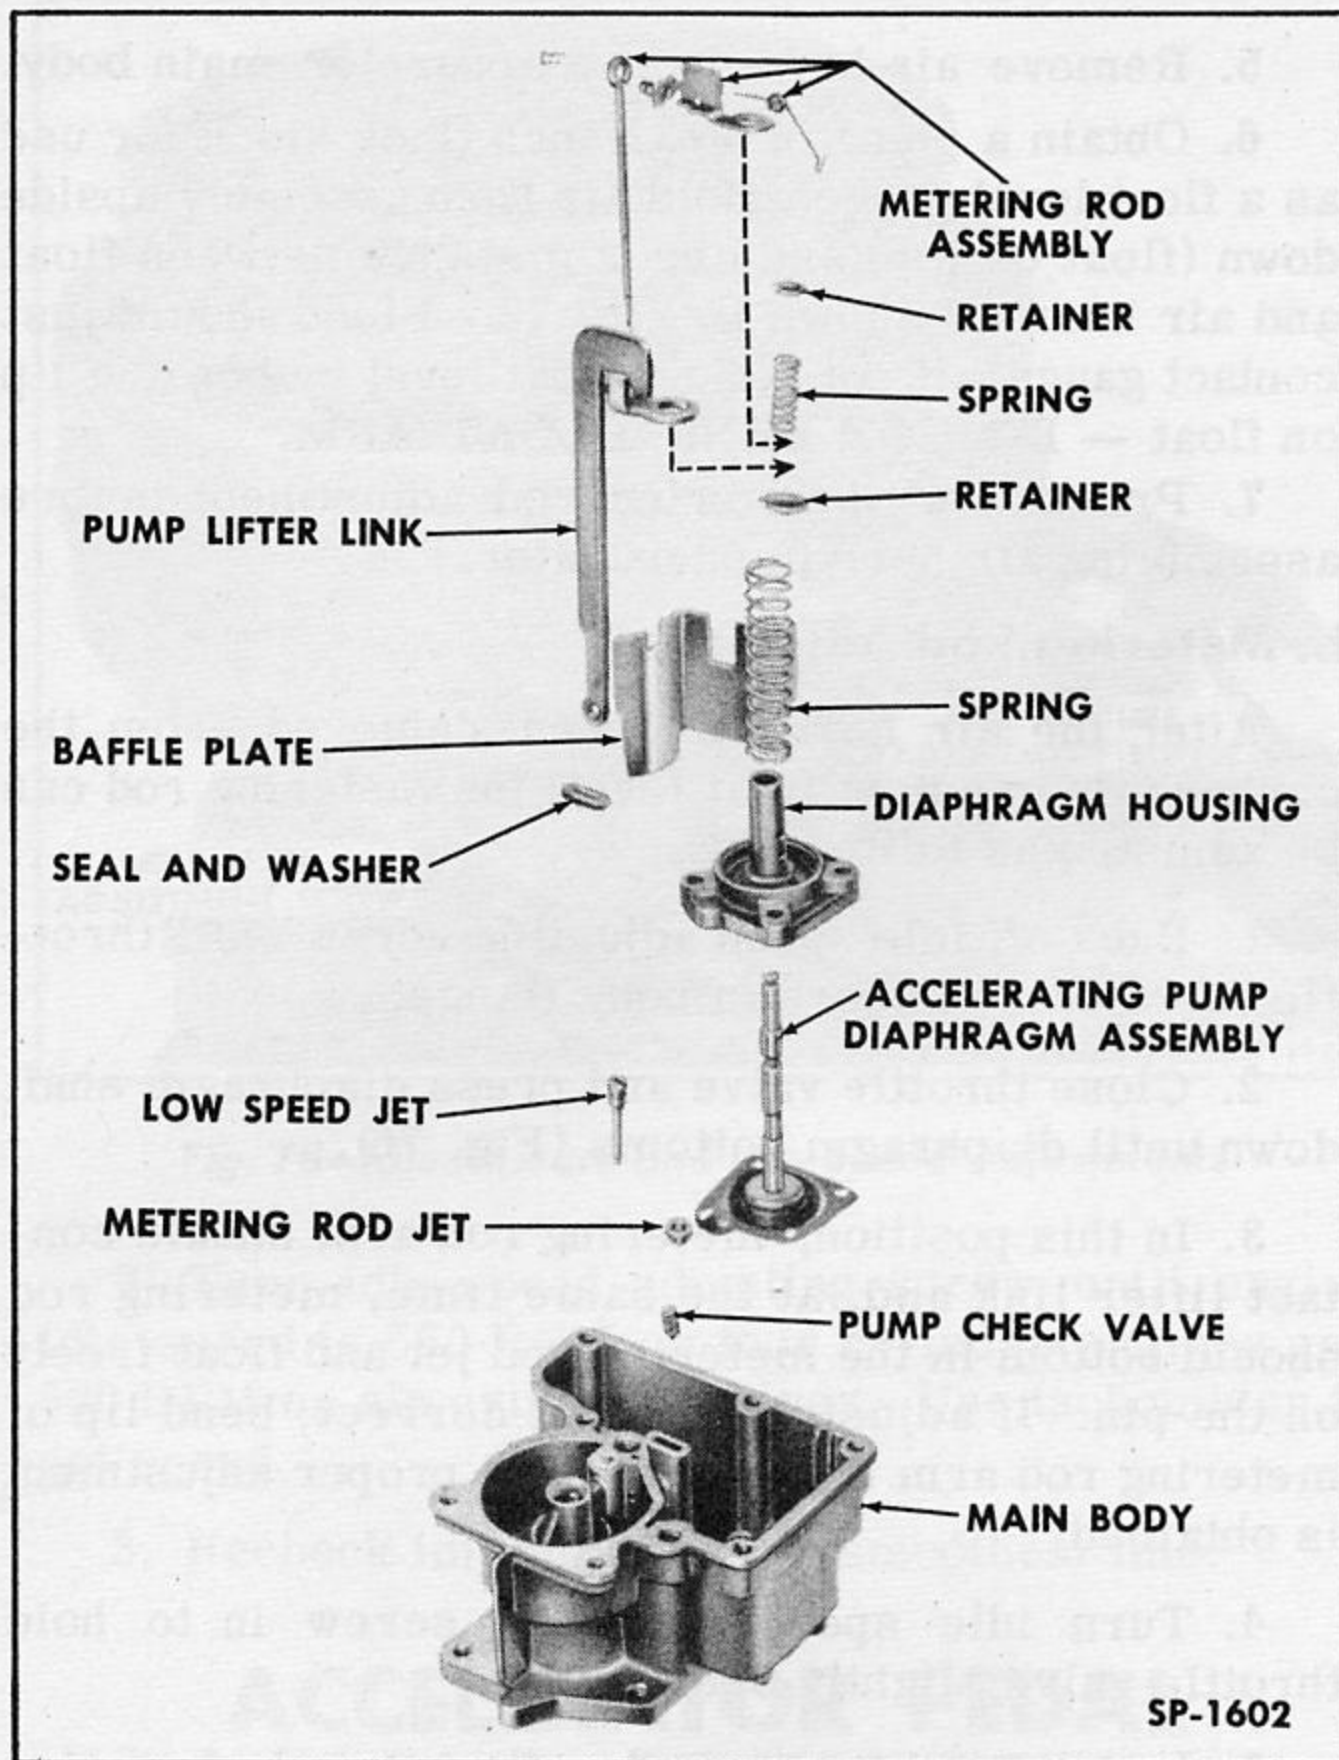

Fig. 73—Carburetor Main Body—Exploded View
3. Turn carburetor main body upside down, allowing pump check valve to drop out. Remove throttle shaft arm and link from throttle shaft. Remove upper spring retainer on pump shaft and remove spring, metering rod assembly, pump lifter link and baffle plate (if so equipped) from carburetor bowl (Fig. 73).